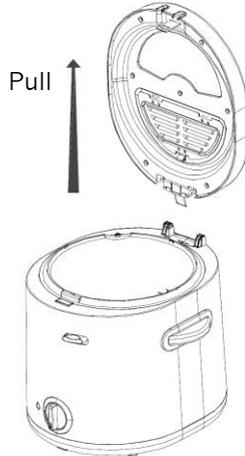

Fig 5
- How to remove and refit the lid – See fig. 5 & 9